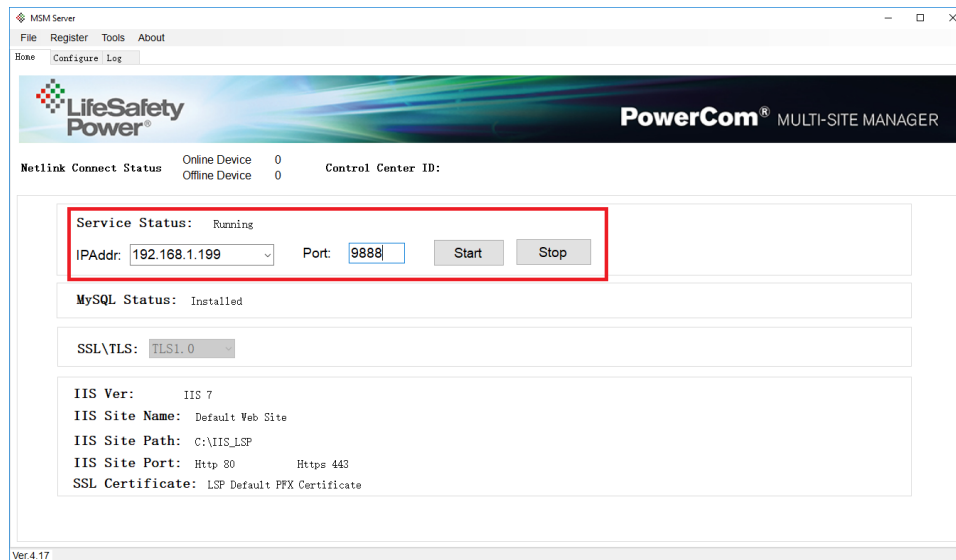

Figure 12
1. Open MSM Enterprise Server. On the "Home" tab, ensure the IP Address is selected for the PC running MSM Enterprise. Ensure the port is set for 9888. Click the start button. (Figure 12)